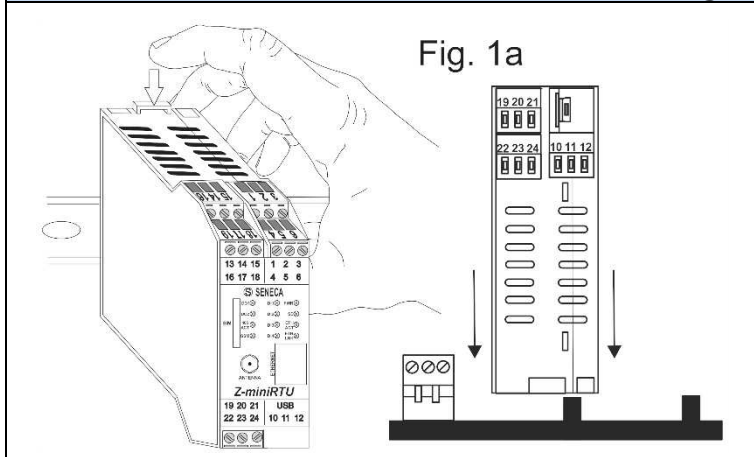

Fig. 1a
- 3) To secure the module to the OMEGA guide, tighten the two hooks on the side of the IDC10 rear connector as shown in fig. 1a.